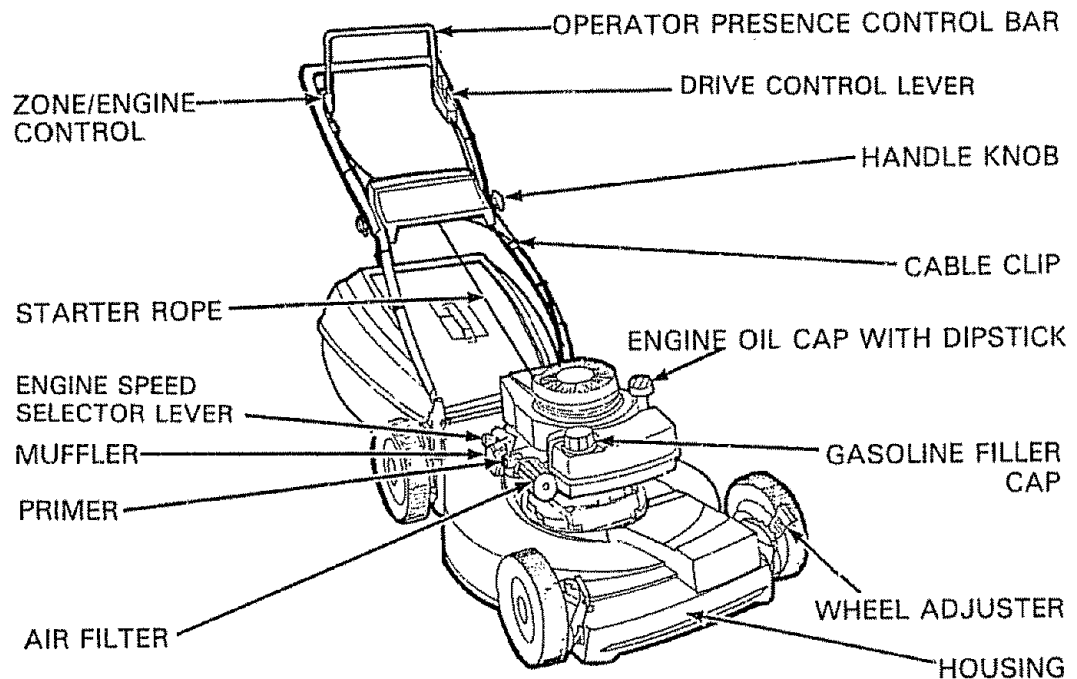

FIG. 4
- Remove engine oil cap with dipstick or oil fill plug. Fill to "FULL" line on dipstick or to top of slot down in filler hole. Use about 1 pint or 1/2 liter of Sears 30W 30 oil or equivalent. SAE 10W 30 oil can also be used (See Fig. 4). DO NOT use SAE 10W 40 oil. The total oil capacity of your engine is 21 oz. or 0.62 liters. Fill only to "FULL" line on dipstick or to top of slot down in oil filler hole. DO NOT over fill. The first fill on a
- Fill gasoline tank with fresh, clean unleaded gasoline. DO NOT USE PREMIUM GASOLINE. BE CAREFUL NOT TO OVER FILL TANK (SEE FIG. 4).